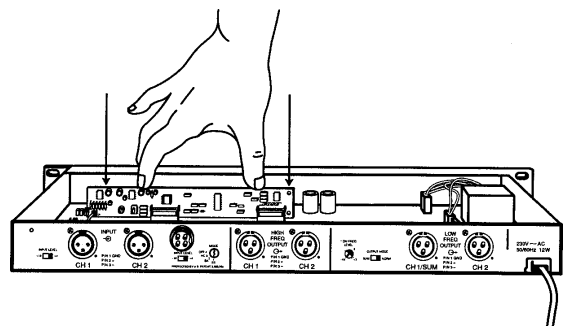

Figure 12. OC-1 connected to controller PCB
C. Plug the PCB into the connector receptacles located on the controller's PCB. See **Figure 12** for proper orientation.